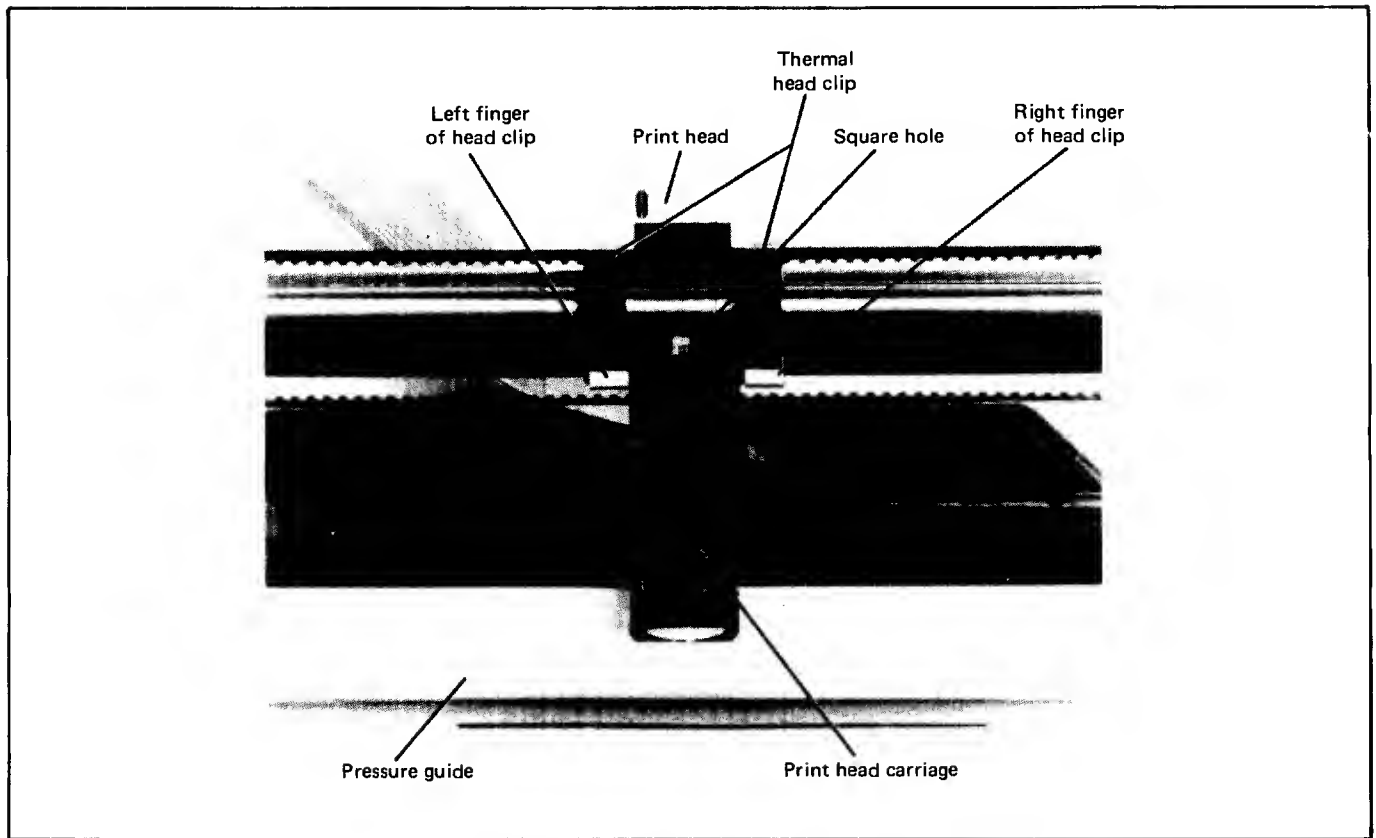

Figure 7-13 TPM Front View
4. Slide print head carriage down to the middle of the TPM (see figure 7-13).
5. Loosen right and left fingers of the thermal head clip which secures the print head in place (see figure 7-13).
1. Put the TPM on the edge of a table top with the pressure guide and print head carriage facing forward. The pressure guide needs to hang over the edge of the table (See figure 7-13).
3. Slide the print head up the print head carriage between the print head carriage and the thermal head clip (see figure 7-13). Do not bend flex cable where it connects to the print head because the wires will break.
5. Look through the square hole of the print head carriage. Be sure that print head ceramic is seen in half of the square hole, and that the flex cable is seen in the other half of the square hole (see figure 7-13).
6. Latch the left and right fingers of the thermal head clip (see figure 7-13)